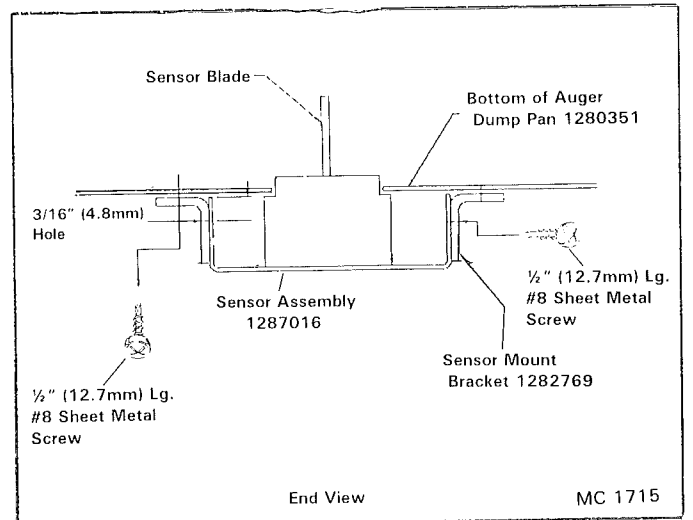

Figure 13 Sensor and Sensor Mounting Brackets
1. The Sensor for the Moisture Monitor is shipped fastened to the right rear side of the dryer base. Once dryer is in position at the drying site, the Sensor can be installed. See Figure 13.
2. The rear 8 ft. (2.44m) Discharge Auger Pan has a Cover Plate over the rectangular cutout for the Sensor. The (2) Sensor Brackets #1282769 are used to hold the Cover Plate